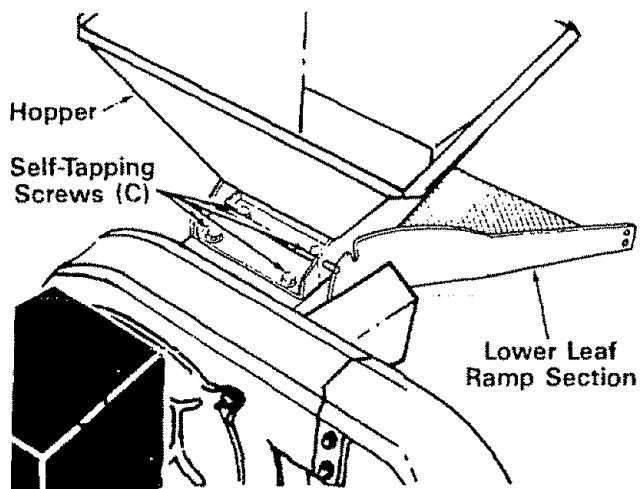

FIGURE 3.
2. Place the hopper in position on the shredder. See figure 3. Start all four hex washer head self-tapping screws (C), then tighten securely using a 1/2" socket wrench